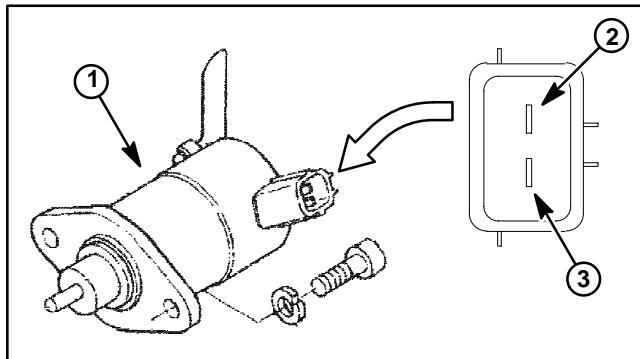

Figure 25
2. Using a digital multimeter, touch one test lead to the pull coil terminal and the other test lead to the fuel stop solenoid frame (ground) (Fig. 25). The resistance of the pull coil should be less than 1 ohm (but not zero).
3. Using a digital multimeter, touch one test lead to the hold coil terminal and the other test lead to the fuel stop solenoid frame (ground) (Fig. 25). The resistance of the hold coil should be approximately 15 ohms.
4. Touch a negative (-) test lead from the 12 VDC source to the fuel stop solenoid frame (ground) (Fig. 25). The solenoid should engage, making an audible "click," and the plunger should retract.